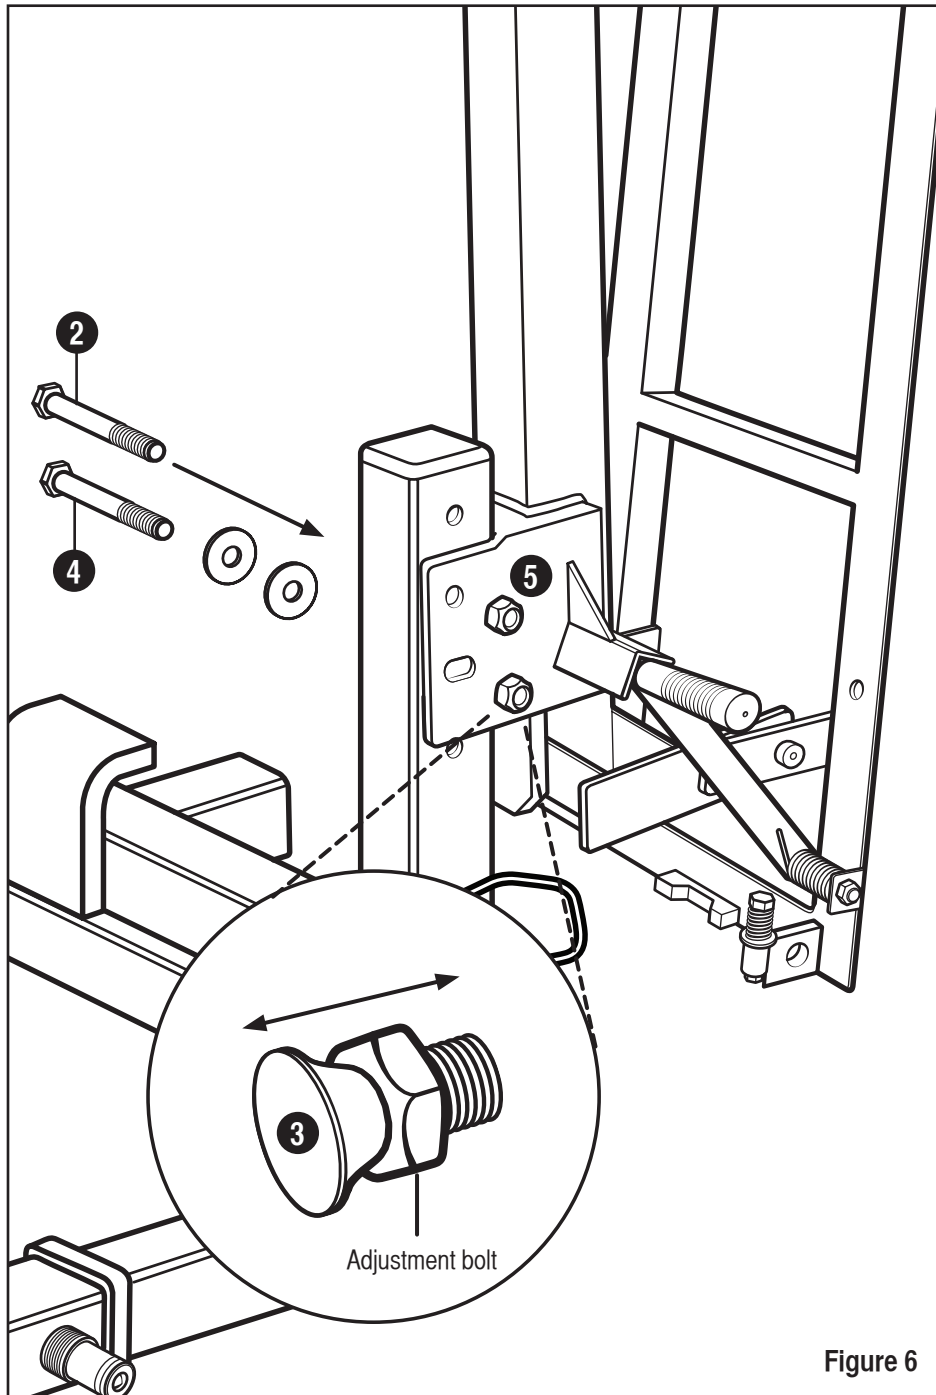

Figure 6
2. Insert the 1/2" x 4" bolt into the upper holes. Attach the nut but do not tighten at this point (**Figure 6**).